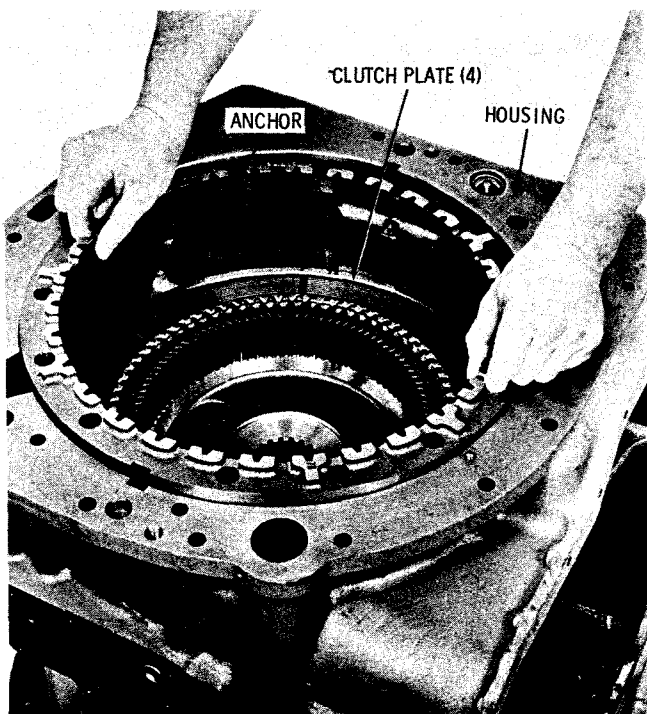

Fig. 5-79. Removing high-splitter clutch anchor
(3) Remove the high-splitter clutch anchor (fig. 5-79) from the housing.
(4) Remove four high-splitter clutch plates (fig. 5-79).